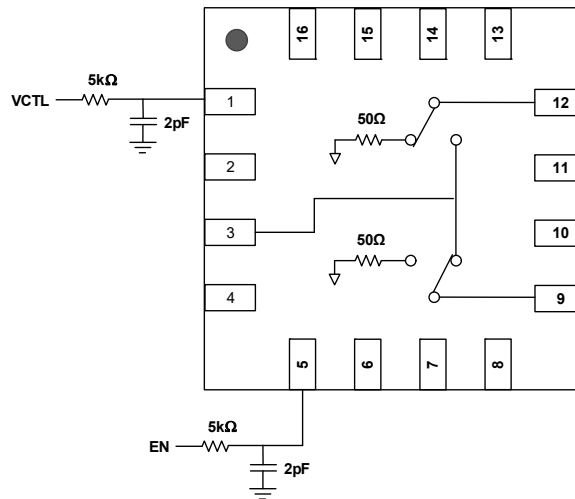

Figure 13. Typical Application Circuit
If control signal integrity is a concern and clean signals cannot be ensured because of issues such as overshoot, undershoot, and ringing, the following circuit at the input of each control pin is recommended. This applies to control Pin 1 (VCTL) and Pin 5 (EN) as shown in Figure 13.